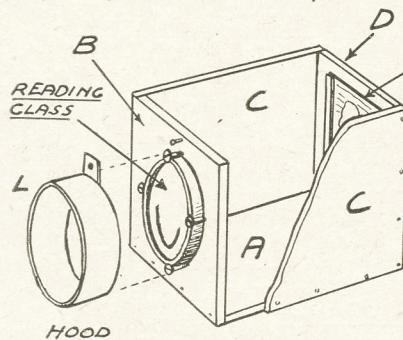

Fig. 1—General construction and parts
The viewing box is built on a base (A) Fig. 1, 5ins. wide and as long as the lens-picture distance just obtained, and $\frac{1}{2}$ in. thick. On the forward edge of this is the front (B) from which there is taken a circular opening a shade smaller than the diameter of the reading-glass, which latter is fixed in front as shown by four screws.